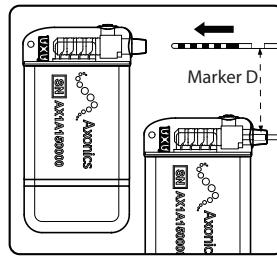

Figure 5: Insert lead fully into the Neurostimulator connector block.
4. Insert the lead into the Neurostimulator connector block until fully seated and the lead cannot be inserted further. Marker D on the lead should be inside the Neurostimulator strain relief (**Figure 5**). The retention sleeve on the tined lead should be positioned under the Neurostimulator setscrew.